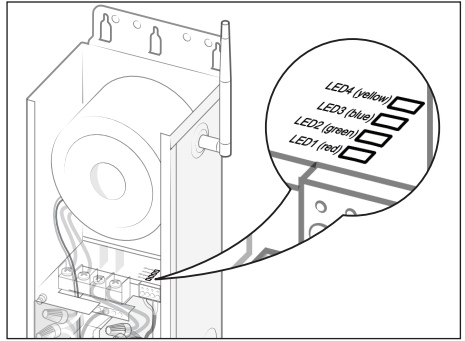

Figure 14. LED Lights
- Pool & Spa Lights will be off due to control from automation, see Figure 14.